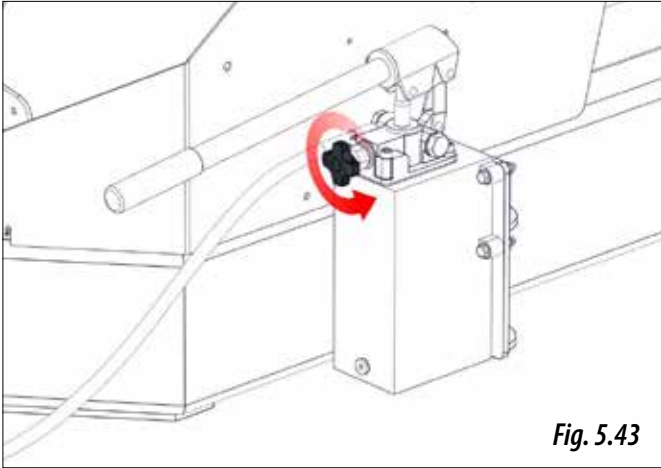

Fig. 5.43
- 1- Loosen the hand pump key (Fig. 5.43) to raise the telescopic leg. Once the leg is up, tighten the key again.